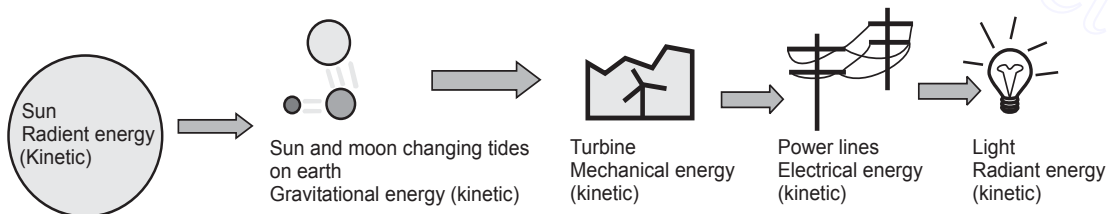

Fig. 5.1.7
- Fig. 5.1.7 shows an example of an energy transformation for tidal power.